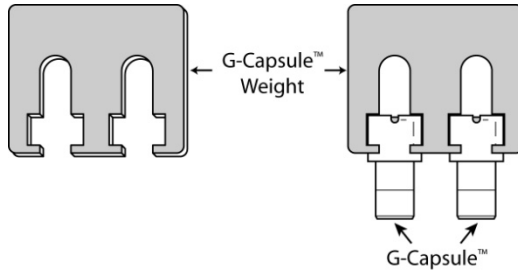

Figure 2: G-CAPSULE™ Weight prevents 1-2 G-CAPSULE™ from floating or moving during electroelution.
- Optional: G-CAPSULE™ Accessory Kit (Cat. # 786-004) Prevents G-CAPSULE™ from floating during electrophoresis (Figure 2). The G-CAPSULE™ Weight is designed to trap G-CAPSULE™ when submerged under buffer and prevents it from floating or changing direction during electroelution.